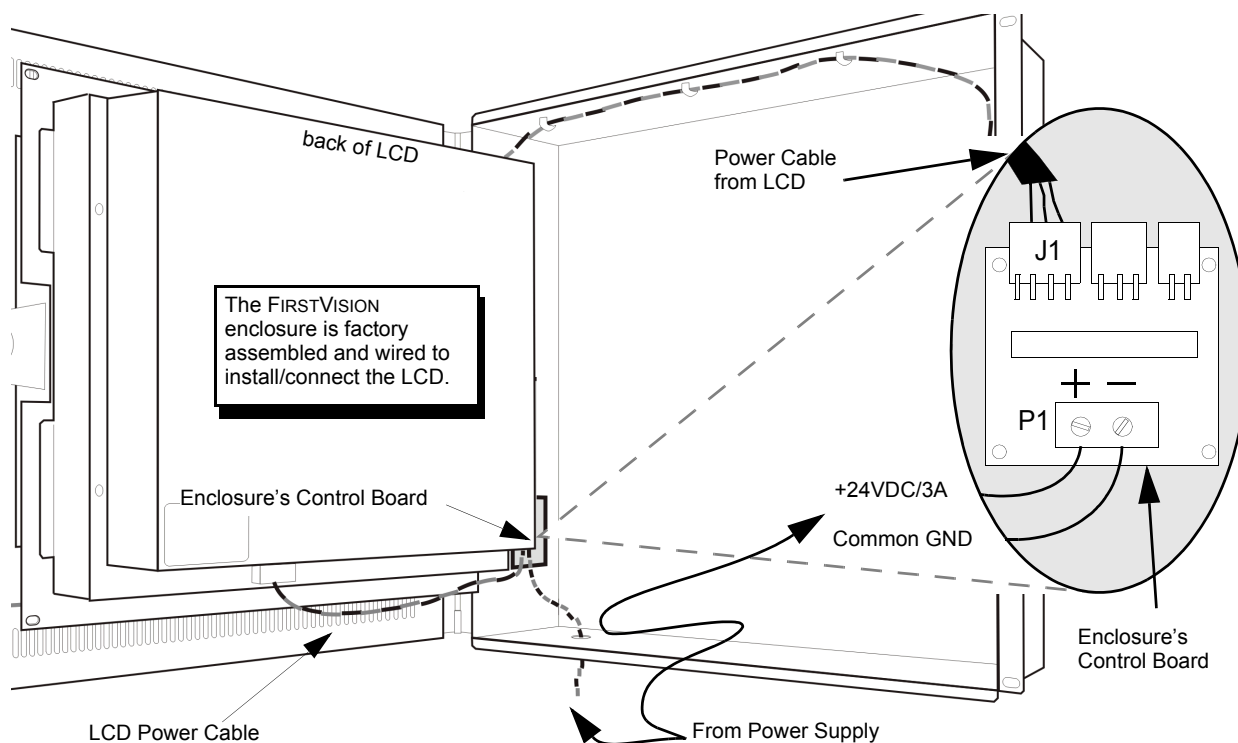

Figure 2.2 FIRSTVISION Power Wiring Diagram
Step 3. Route the external power supply wiring into the enclosure through one of the available knockouts, and then connect it to the control board as shown in Figure 2.2 on page 14.
- Step 2. Connect the LCD's power cable to the enclosure's control board as shown in Figure 2.2 on page 14.